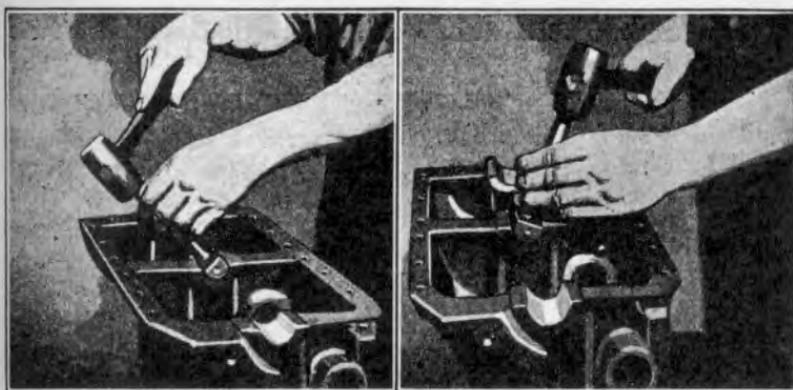

Fig. 152
- 232 The bearings should now be peened to conform to the cylinder block. This is done with a peening tool. The tool is laid on the bearing and is tapped first on one side of the bearing and then on the other (See Fig. 152).